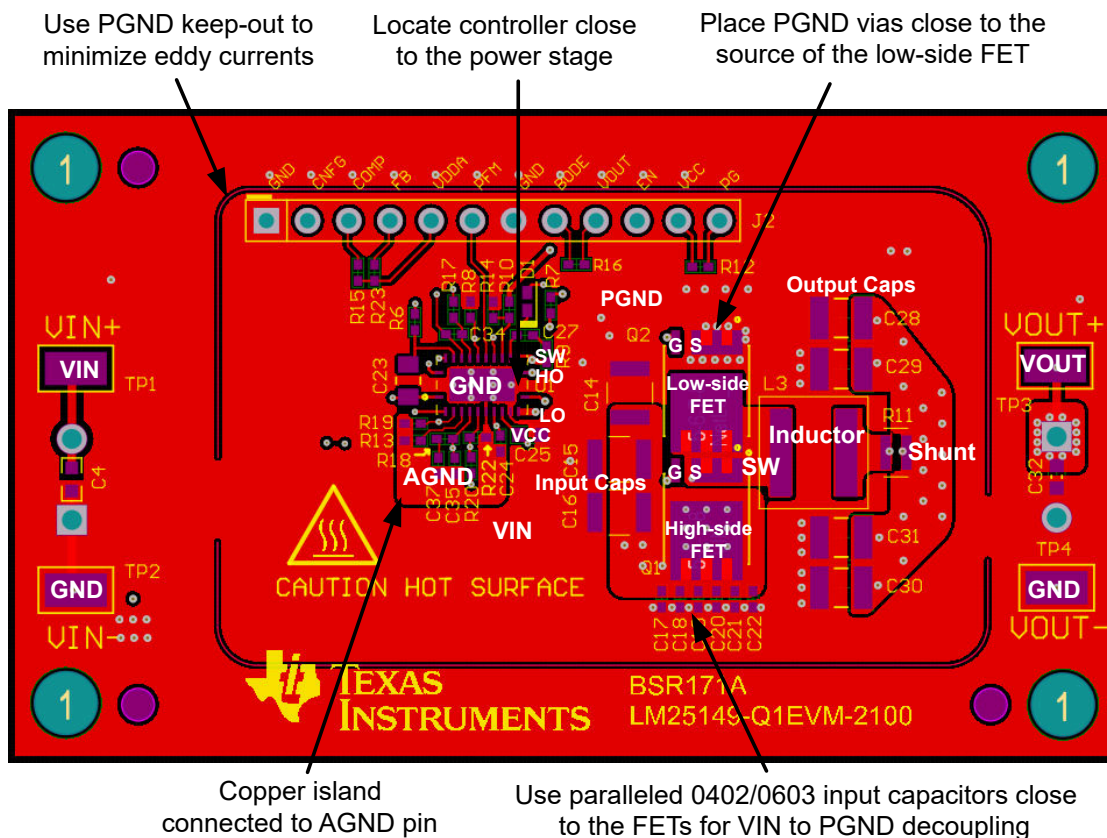

图 9-37. PCB Top Layer – High Density, Single-sided Design
- Connect AVSS to a quiet GND connection, further from IC if possible. Keep decoupling capacitor  $C_{AEFVDDA}$  close to the AEFVDDA pin and AVSS GND connection. See capacitor C23 in Figure 9-37.
图 9-37 shows a single-sided layout of a synchronous buck regulator with discrete power MOSFETs, Q1 and Q2, in SON 5-mm × 6-mm case size. The power stage is surrounded by a GND pad geometry to connect an EMI shield if needed. The design uses layer 2 of the PCB as a power-loop return path directly underneath the top layer to create a low-area switching power loop of approximately 2 mm2. This loop area, and hence parasitic inductance, must be as small as possible to minimize EMI as well as switch-node voltage overshoot and ringing.
- Make the ground connections to the LM25149-Q1 controller as shown in 图 9-37. Create a power ground directly connected to all high-power components and an analog ground plane for sensitive analog components. The analog ground plane for AGND and power ground plane for PGND must be connected at a single point directly under the IC – at the die attach pad (DAP).